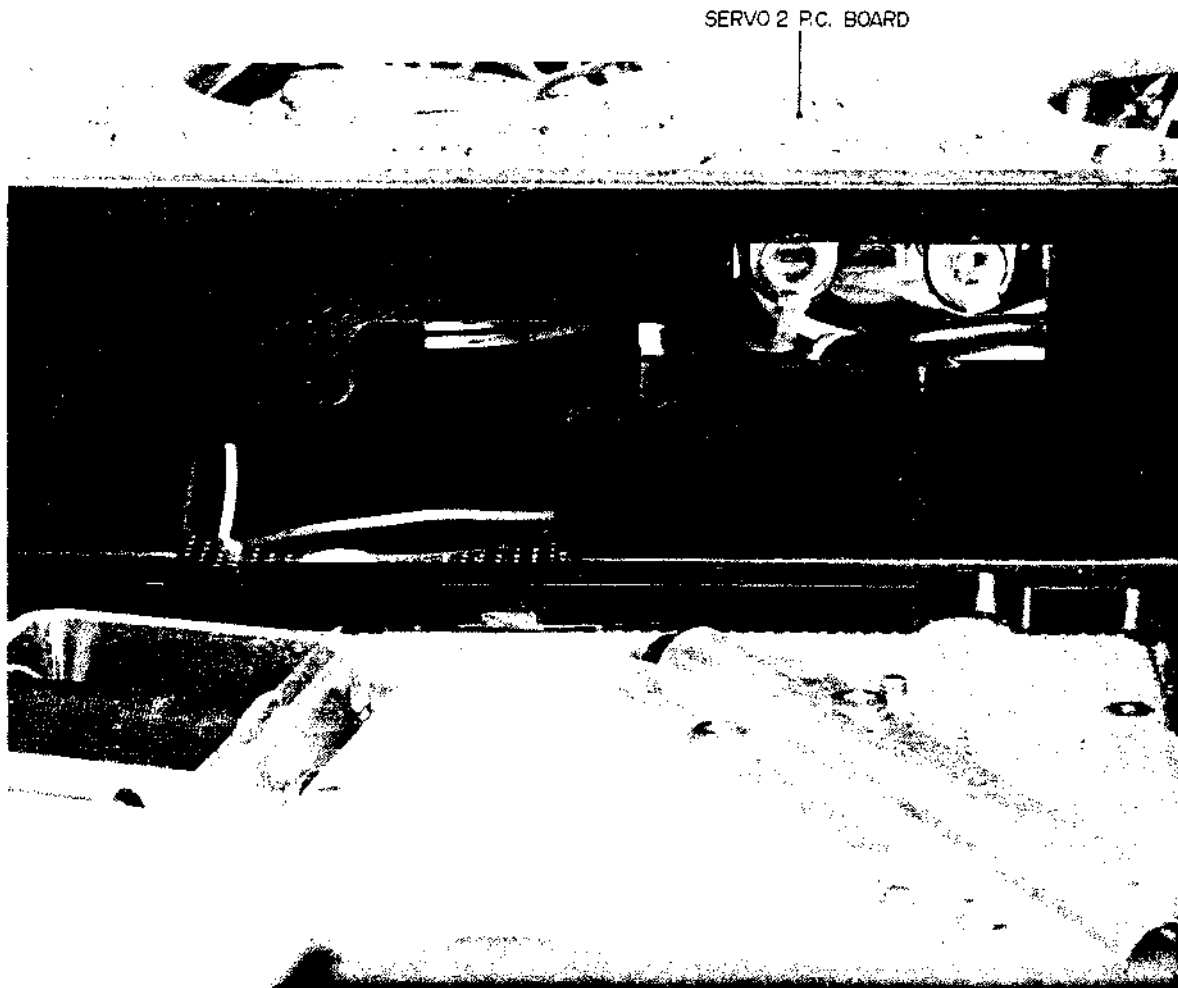

Fig. 2-13
NOTE: Set Camera/T.V. Switch to Camera prior to making servo circuit adjustments. Also make sure that the Function Switch installed on Servo 2 P.C. Board is correctly positioned during each adjustment (Refer to Fig. 2-13).
- i) Connect a frequency counter to 8P connector Audio Output terminal (pins J and H) and playback a 1 kHz test tape. Set Function Switch to position A and adjust Servo 2 P.C. Board VR5 (Fig. 2-13) to obtain a frequency counter indication of  $1 \text{ kHz} \pm 5 \text{ Hz}$ .